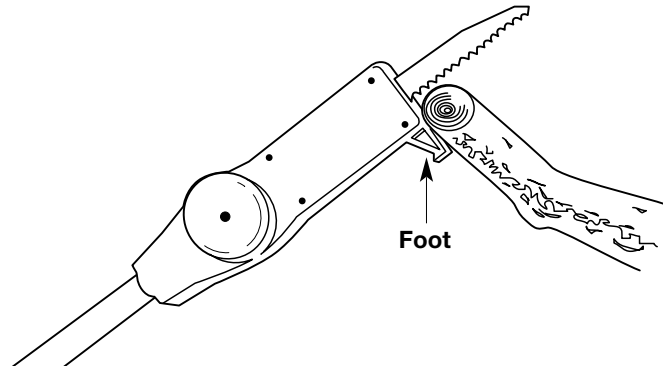

Fig. 12
1. When operating the pruner, rest the foot of the pruner against the tree limb that is being cut (Fig. 12).